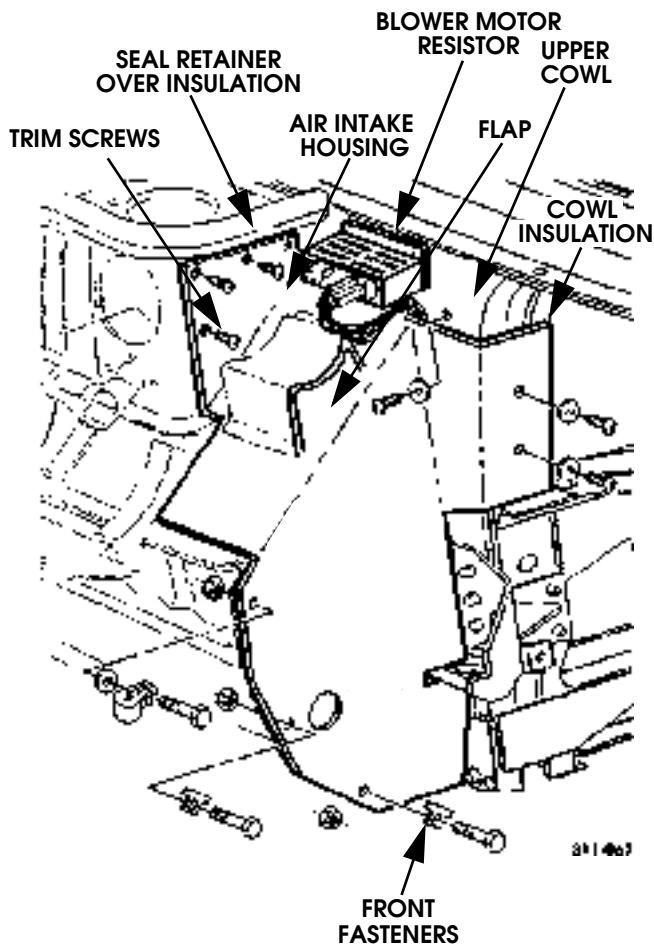

Figure 11-20: Cowl Insulation Mounting
7. Remove trim screws, as necessary, from insulation on air intake housing (Figure 11-20).
1. Position cowl insulation so that flap side is inserted under surge tank bracket (Figure 11-20).